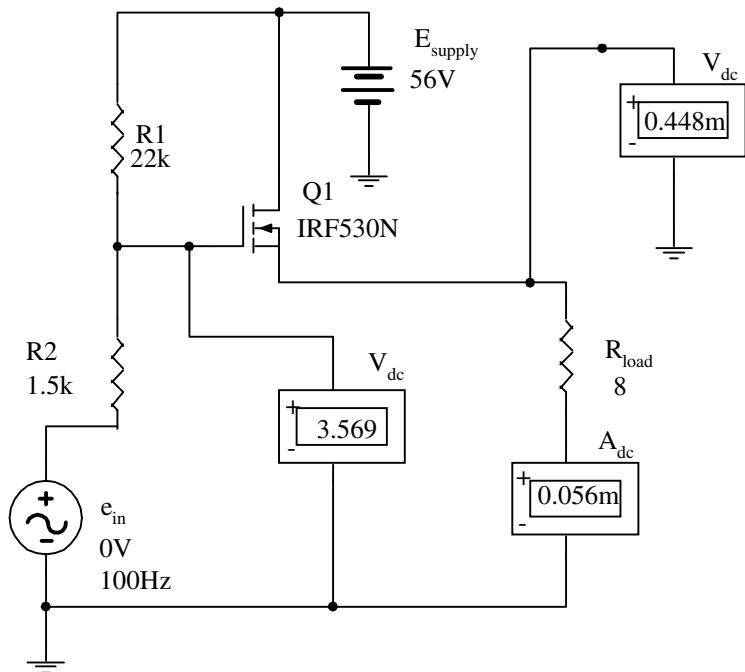

Figure 5-13 Multisim bias simulation results for Example 5-5
2. The bias simulation is shown in Figure 5-13. It indicates 3.57 V_{dc} at the gate. This causes 56 μA_{dc} of drain current. With no input signal, the transistor is off, dissipating no power.